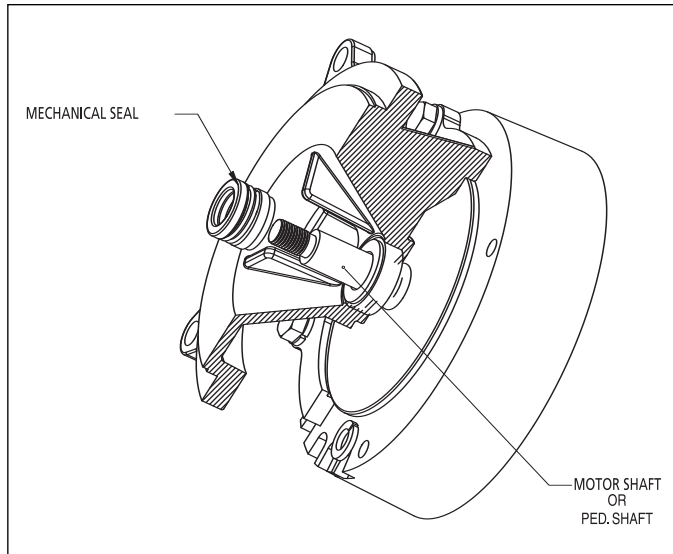

Figure 3 - Seal Removal
4. The seal (part of Ref. No. 6) can now be pulled from the shaft. (See figure 3).
Seal Assembly Removal and Installation (Figures 3 thru 6)